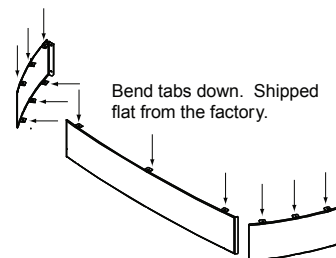

Figure 19.3
3. Remove the 2 cast sides and slide the assembled trim over the assembled surround set (**Figure 19.3 on pg 19**).